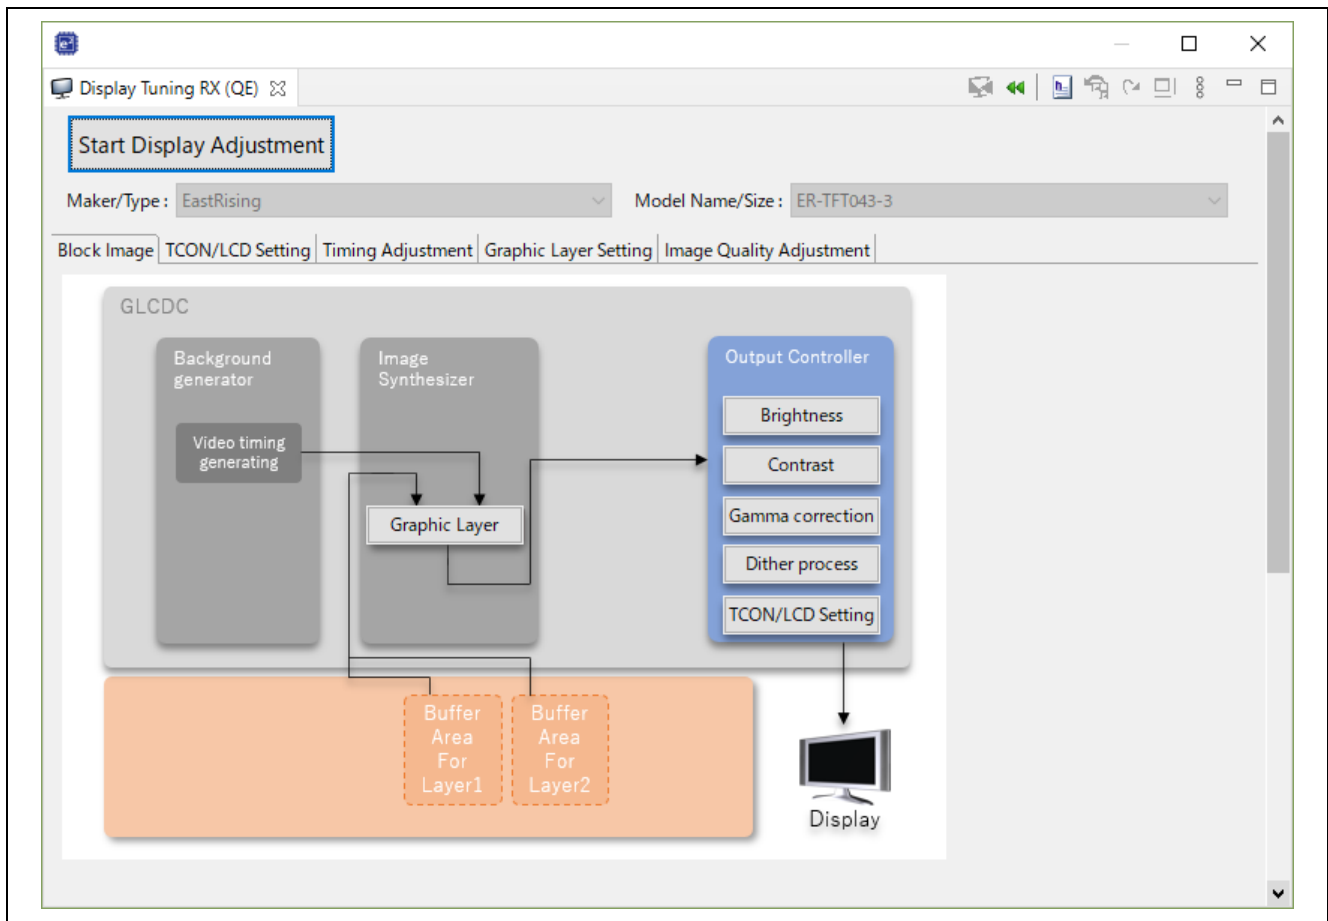

Figure 6-2 “Display Tuning RX (QE)” View
After a project has been selected in “1. Selecting a project” in the workflow diagram of QE for Display [RX], selecting “Renesas Views” -> “Renesas QE” -> “Display Tuning RX (QE)” from the menu of the e² studio opens the “Display Tuning RX (QE)” view of QE for Display [RX] (Figure 6-2).
Figure 6-2 is the display of a block diagram of the hardware of the GLCDC, showing the path for the output of image data and the relationships between the positions where images are to be corrected. Clicking on “Brightness” or “Contrast” for the adjustment of image quality produces the “Image Quality Adjustment” tabbed page, which allows various adjustments.